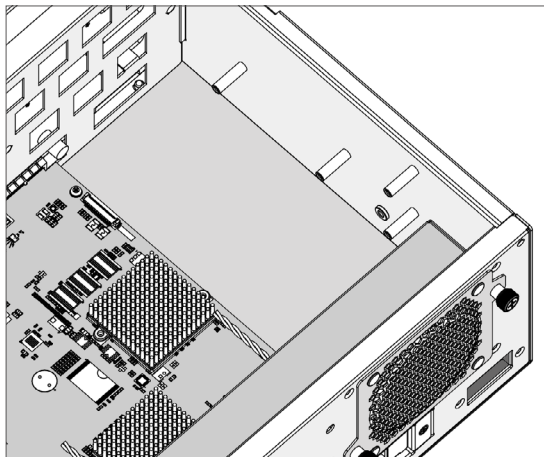

Figure B-9, Removing the Cover
1. Loosen the screws and remove the cover from the ARC-7316 enclosure, as shown in Figure B-9.